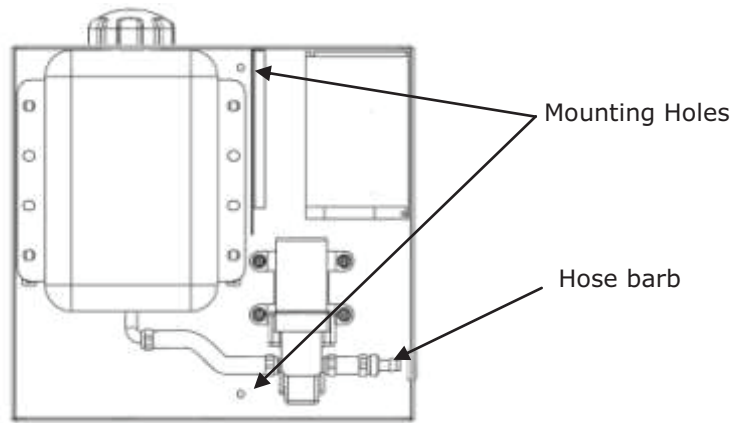

Figure 1: Geo-Booster with cover removed
1. Mount the Geo-Booster to a well supported structure such as a framed or concrete/masonry wall using appropriate mounting hardware (Figure 1).
2. Insert one end of the flexible braided hose through the rubber grommet in the right side of the cabinet. Attach the hose to the hose barb fitting using a hose clamp (Figure 1). Ensure the hose will reach the intended plumbing point.
1. Mount the Geo-Booster to a well supported structure such as a framed or concrete/masonry wall using appropriate mounting hardware. Insert one end of the flexible braided hose through the rubber grommet in the right side of the cabinet. Attach the hose to the hose barb fitting inside the cabinet using a hose clamp (Figure 1). Ensure the hose will reach the PT plug installed in the elbow at the heat pump.
1. Mount Geo-Booster to a well supported structure such as a framed or concrete/masonry wall using appropriate mounting hardware (Figure 1).
2. Insert one end of the flexible braided hose through the rubber grommet in the right side of the cabinet. Attach the hose to the hose barb fitting using a hose clamp (Figure 1). Ensure the hose will reach the PT plug in the elbow on the heat pump.